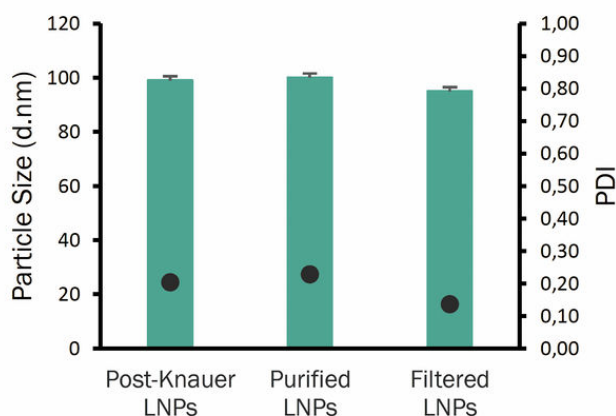

Figure 2. Hydrodynamic diameter and PDI of LNPs formulated during scale up to 1L GMP batch scale by DLS.
Monitoring the size throughout the process of formulating Lipid Nanoparticles (LNPs) provides crucial insights into the critical quality attributes of the resulting nanoparticles (2). In the example described of GMP production, we closely tracked the size changes at every stage. This observation aimed to identify any potential impact on LNPs and assess the overall success of mRNA delivery. In Figure 2, DLS size data from the key stages of the process are presented, illustrating optimal control over the overall stability of the formulation.
Monitoring the size throughout the process of formulating Lipid Nanoparticles (LNPs) provides crucial insights into the critical quality attributes of the resulting nanoparticles (2). In the example described of GMP production, we closely tracked the size changes at every stage. This observation aimed to identify any potential impact on LNPs and assess the overall success of mRNA delivery. In **Figure 2**, DLS size data from the key stages of the process are presented, illustrating optimal control over the overall stability of the formulation.